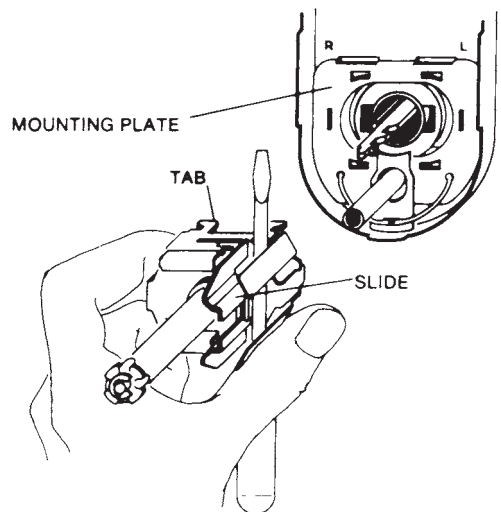

Figure 13.76 Changing hand, Step 7.
7. Rotate the slide assembly 180°. With the slide compressed, insert the lugs into slots on the mounting plate (Fig. 13.76).